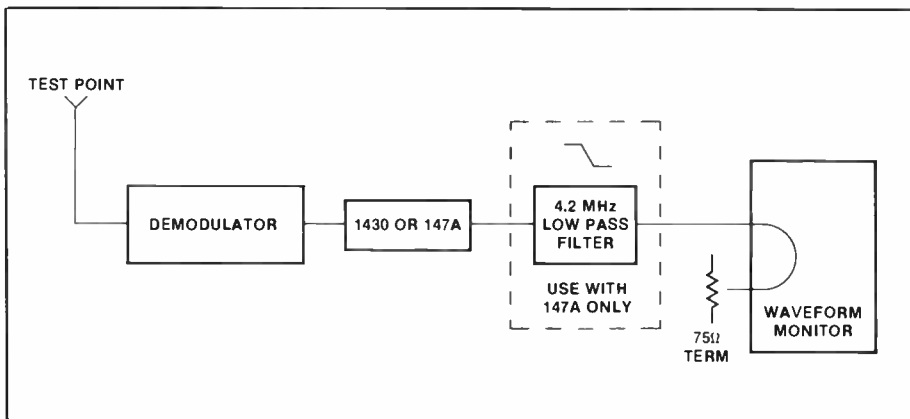

Figure 9-5 Equipment connection for alternative noise measurement
1. Connect the equipment as illustrated in figure 9-5.